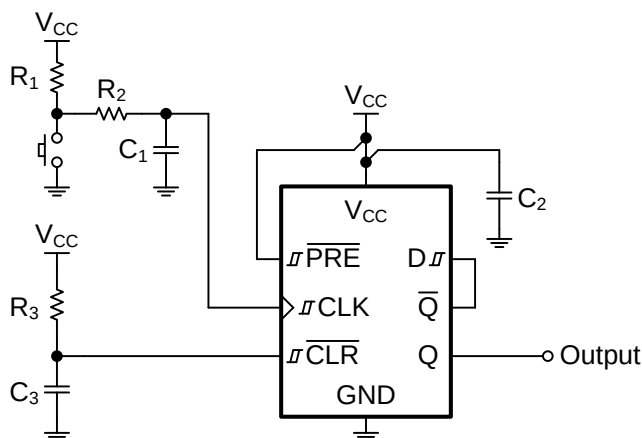

Figure 12. Device Power Button Circuit
With the SN74HCS74-Q1, a power on reset circuit only requires a resistor (R) and capacitor (C) to create a delay. The R and C values create a delay that is approximately $2.2 \times RC$. An additional Schmitt-trigger input device would be required to allow this slow rise if the flip-flop did not have Schmitt-trigger inputs. In this application, it is desired to have the output (Q) in the LOW state at startup, so R_3 and C_3 are connected directly to the CLR pin, as shown in Figure 12.